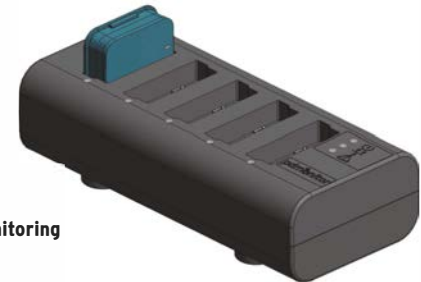

Figure 6. Placing PDMonitor® Monitoring Devices on the SmartBox
6. Place the Monitoring Devices on the SmartBox as shown in Figure 6